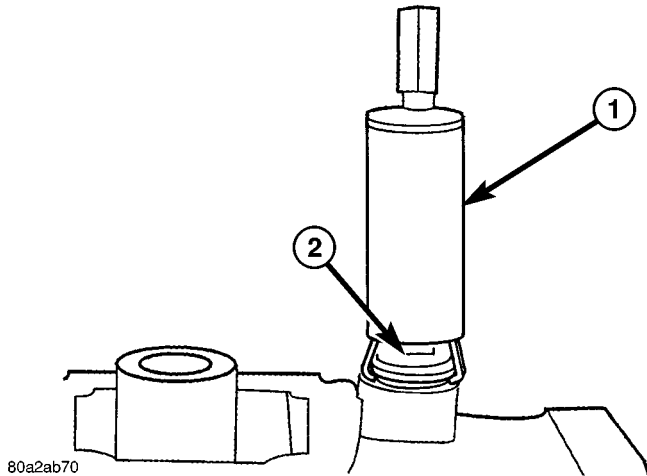
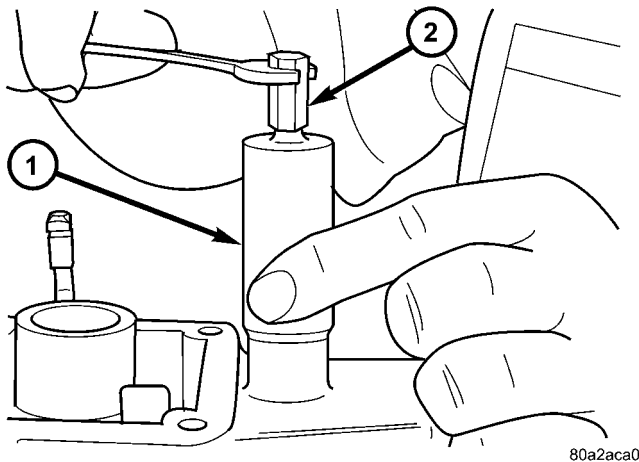

Fig. 7 DETENT PULLER
Fig. 8 PULL DETENT PLUG
(7) Remove shift shaft detent plug with Remover 8117A. Attach the fingers of the remover to the detent plug (Fig. 7). Then push the cup down till it contacts the trans. Tighten the nut (Fig. 8) till it pulls the plug from the trans case.